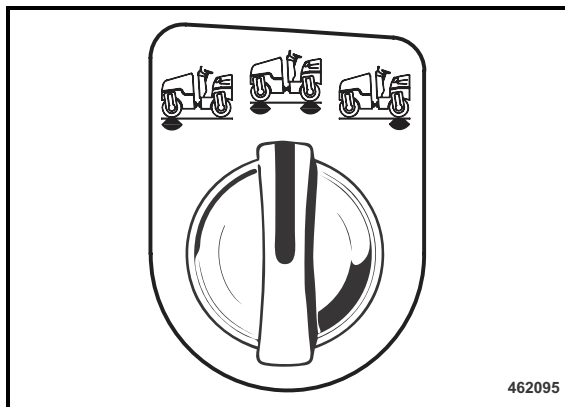

Fig. 71
- Use the rotary switch for drum pre-selection (Fig. 71) to pre-select the desired drum(s).